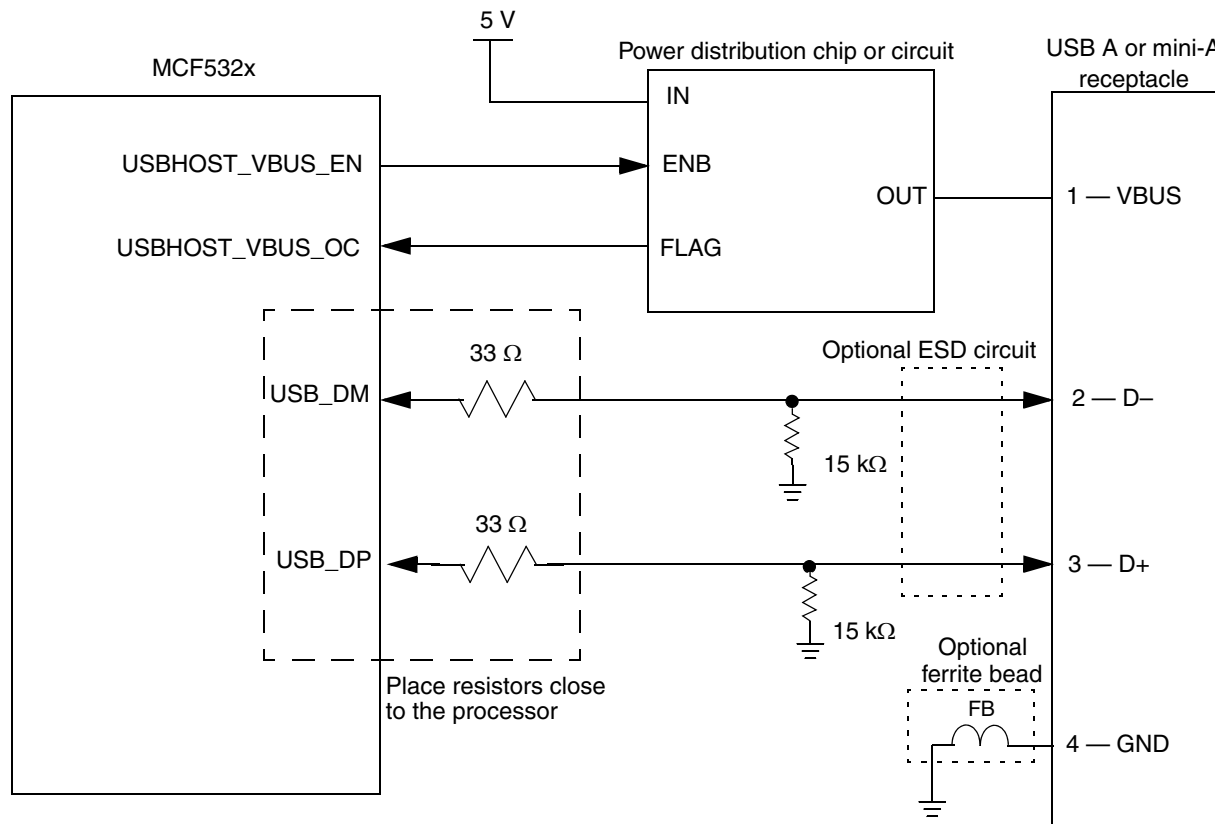

Figure 1. Typical Hardware Configuration Using the USB Host Module
The MCF532x has a dedicated USB host module. The host module is interfaced to an on-chip, full-speed (FS)/low-speed (LS) transceiver. Figure 1 shows a typical hardware setup for the dedicated USB host module. Similar connections would be used for the dual-role controller acting as a FS/LS host only.
The circuit shown in Figure 1 can also be used with the MCF532x's dual-role USB module when FS/LS host-only operation is desired. The MCF532x does not supply a VBUS enable or VBUS over-current signal for the dual-role controller; these signals are available only for the dedicated host port. A GPIO signal can create a software-controlled VBUS enable signal for the dual-role module. An external interrupt